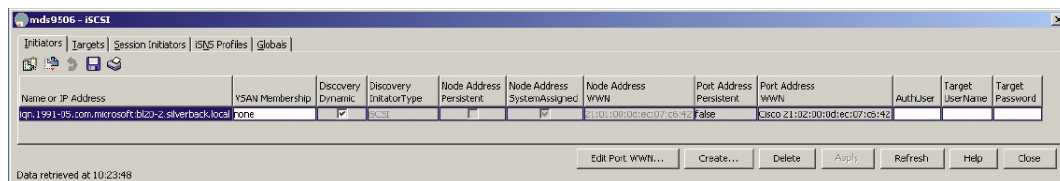

Figure 28 IP iSCSI window
1. Using the Cisco Device Manager, select **IP > iSCSI** from the menu bar. The IP iSCSI window opens (Figure 28).
1. Using the Cisco Device Manager, select **IP > iSCSI** from the Device Manager menu bar. The IP iSCSI window opens (Figure 28).